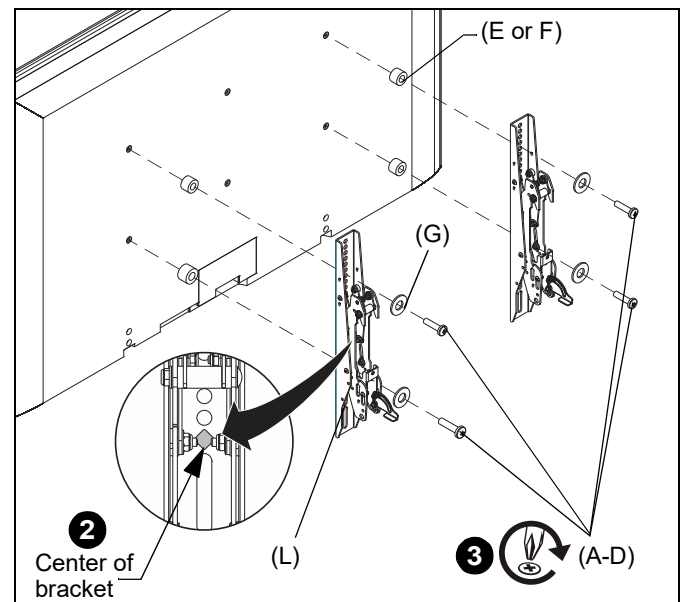

Figure 8
2. Align the center of the interface bracket (L) with center of screen. (See Figure 8)
3. Select correct screws, spacers (if necessary) and washers from the hardware bag (A-G) and attach brackets (L) to back of screen. (See Figure 8)